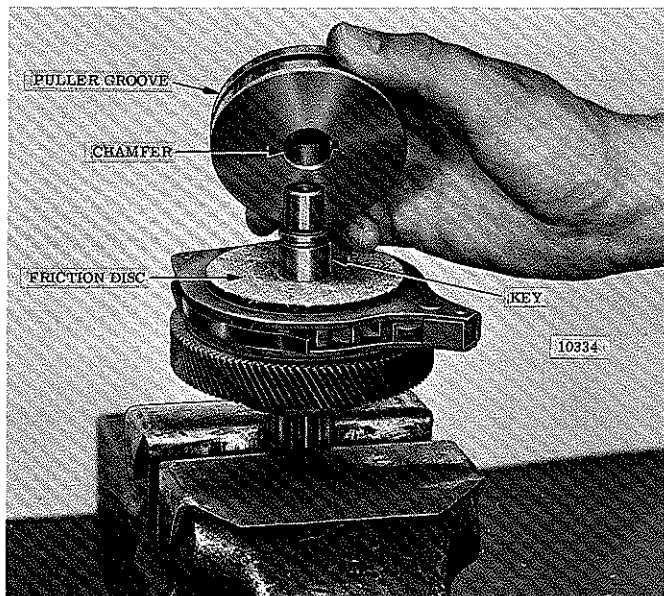
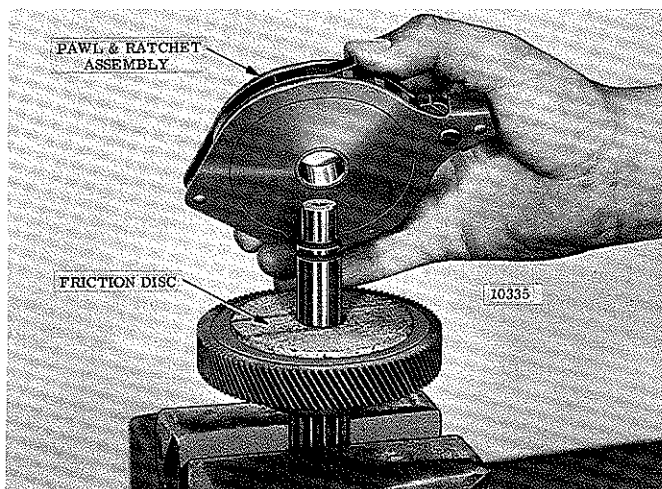

Figure 7-25. View Showing Load Brake Flange Removed
Figure 7-26. Removing Pawl and Ratchet Assembly From Load Brake Shaft
(2) Using a puller tool, remove brake flange from shaft. A groove is provided around outer diameter for this purpose. See figure 7-25. Remove key from shaft and lift off 2 friction discs, and the pawl and ratchet assembly (fig. 7-26).
(4) When installing pawl and ratchet assembly on load brake shaft, be certain that teeth on ratchet face are in the same direction as shown in fig. 7-26. The ratchet assembly should rotate freely when turned counter-clockwise and the pawl should engage ratchet teeth when unit is turned clockwise.
(5) When installing brake flange position it with chamfer facing friction disc, fig. 7-25.